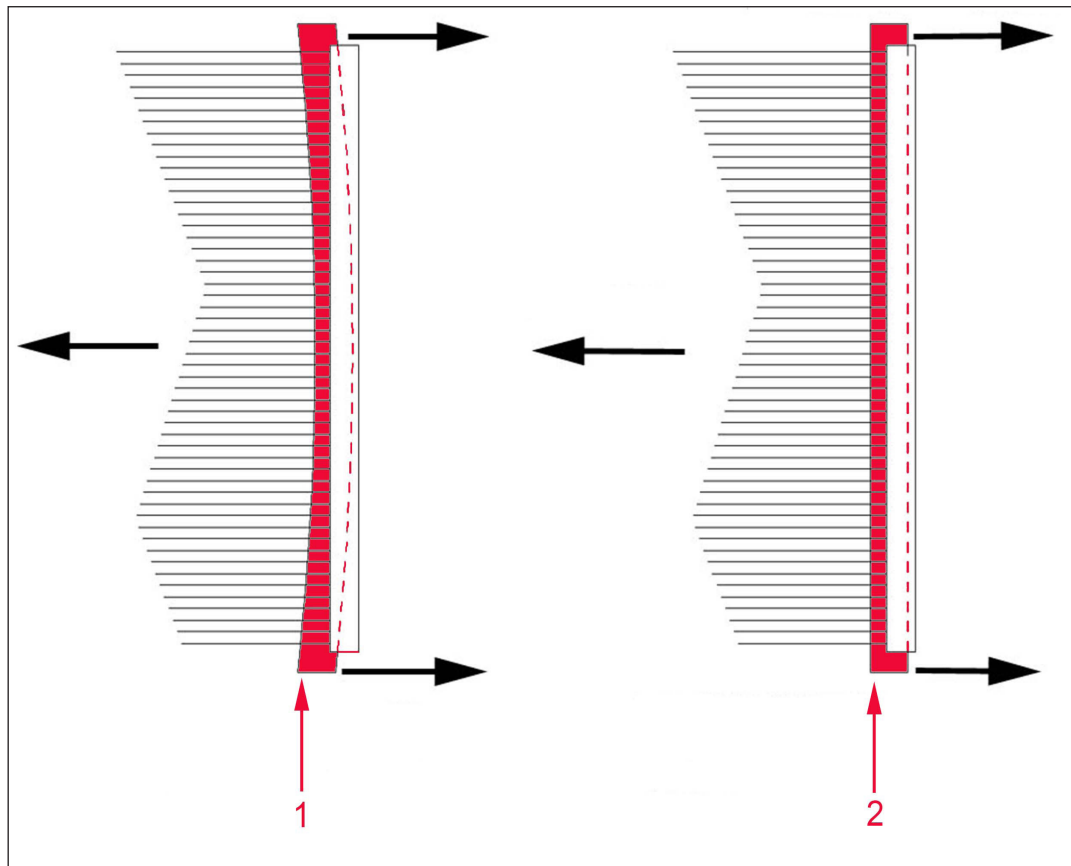

Figure 6.21 - Screen Mesh Tension
10. Do not over tension the screening media, Ref: Figure 6.21.
11. A mesh or speed harp will have the correct tension when the pre-bend in the tension bar is straightened (position 2) Figure 6.21. If the mesh or speed harp is tensioned beyond this point the screening media will be stretched and rendered unusable.